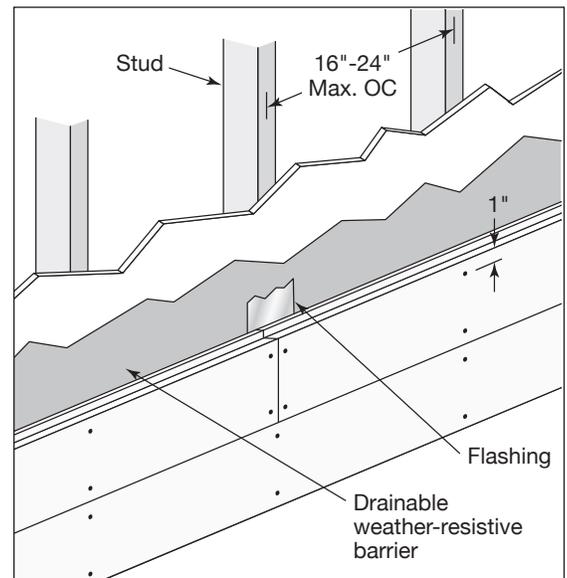

Fig. 1
- TruExterior Siding must be installed on frame-built walls with studs spaced 16 inches on center or at a maximum 24 inches on center (**Fig. 1**)